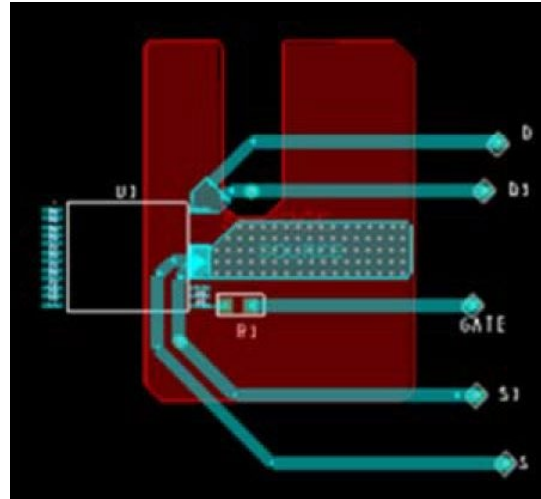

Figure 25. Thermal Resistance Test Conditions for PowiGaN Devices (INN3678C, INN3679C and INN3670C.)
Testing performed on custom thermal test PCB as shown in Figure 25. The test board consists of 2 layers of 2 oz. Cu with the InSOP package mounted to the top surface and connected to a bottom layer Cu heat sinking area of 550 mm².
- Please see Figure 25.